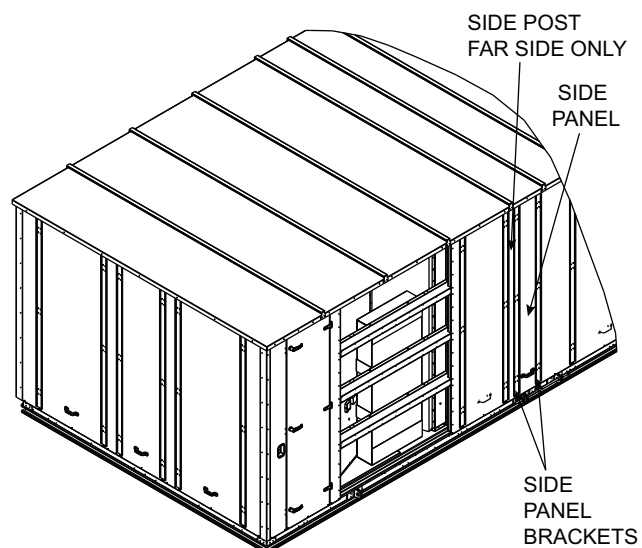

Fig. 46 — Side Post and Panel Installation
15. Install side post on far side of unit. See Fig. 46.
16. Install side panels at main unit section/return section split. Install panel side brackets, 2 on each panel. See Fig. 46.